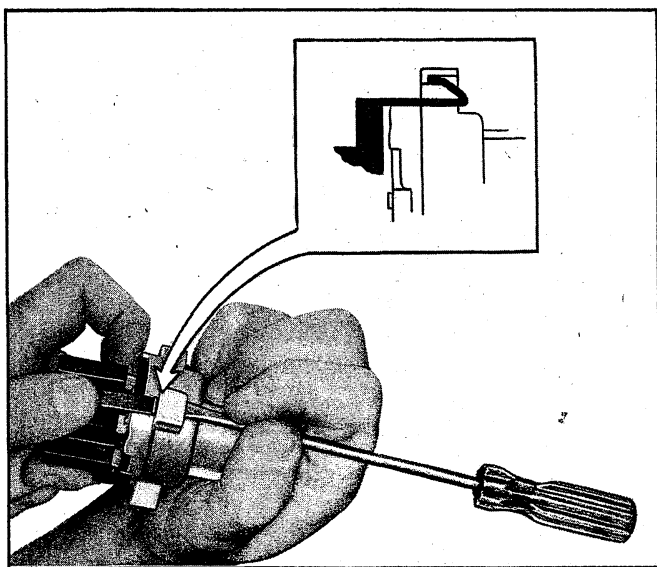

Fig. 22i—Unlocking Ignition Switch Connector
5. To remove the "theft resistant" connector, the switch must be out from under the dash as outlined in Step 4. Using a screw driver unsnap the locking tangs on the connector from their position on the switch as shown in Figure 22i. Unplug the connector.